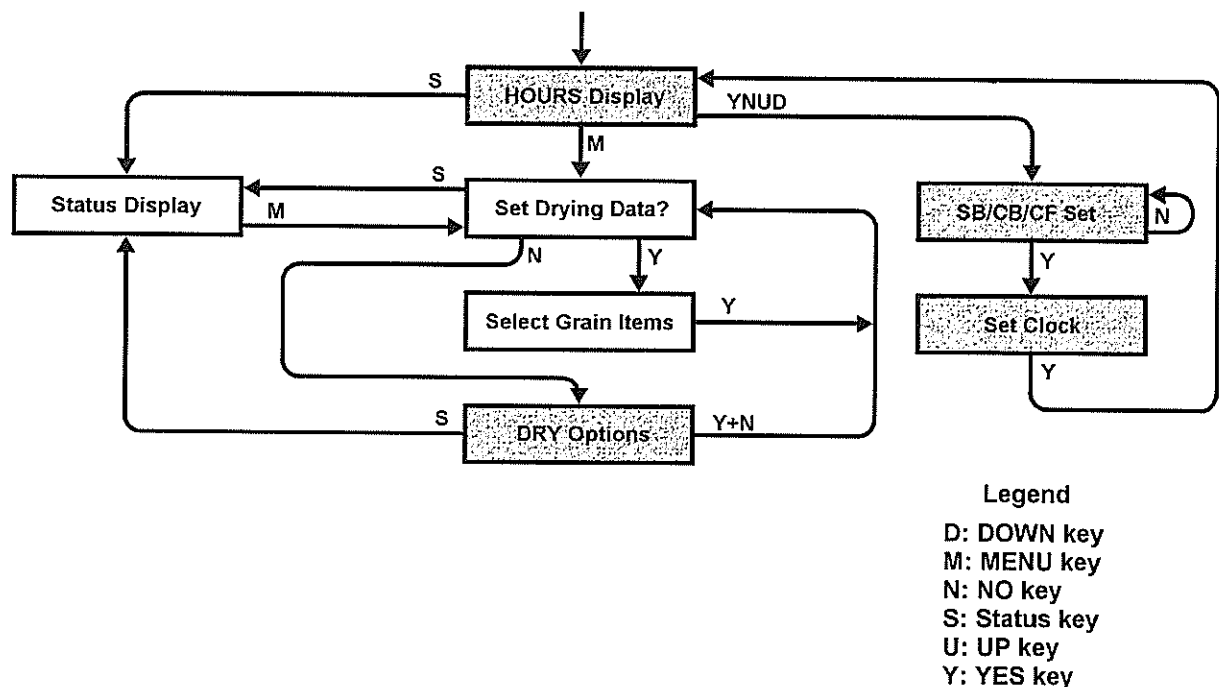

Figure 4-C Path followed by controller from the status display to setting grain drying parameters.
4.2.2.2.3 Establishing Drying Conditions - Press and release the **MENU** key. The path taken by the controller to reach the grain parameter setting display is shown in Figure 4-C.